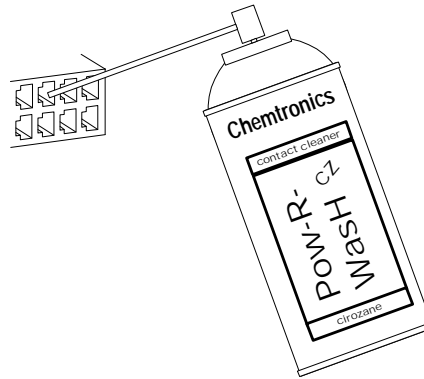

Figure 1
3. **Clean** each terminal using Chemtronics contact cleaner "Pow-R-WasH CZ " as shown in Figure 1.